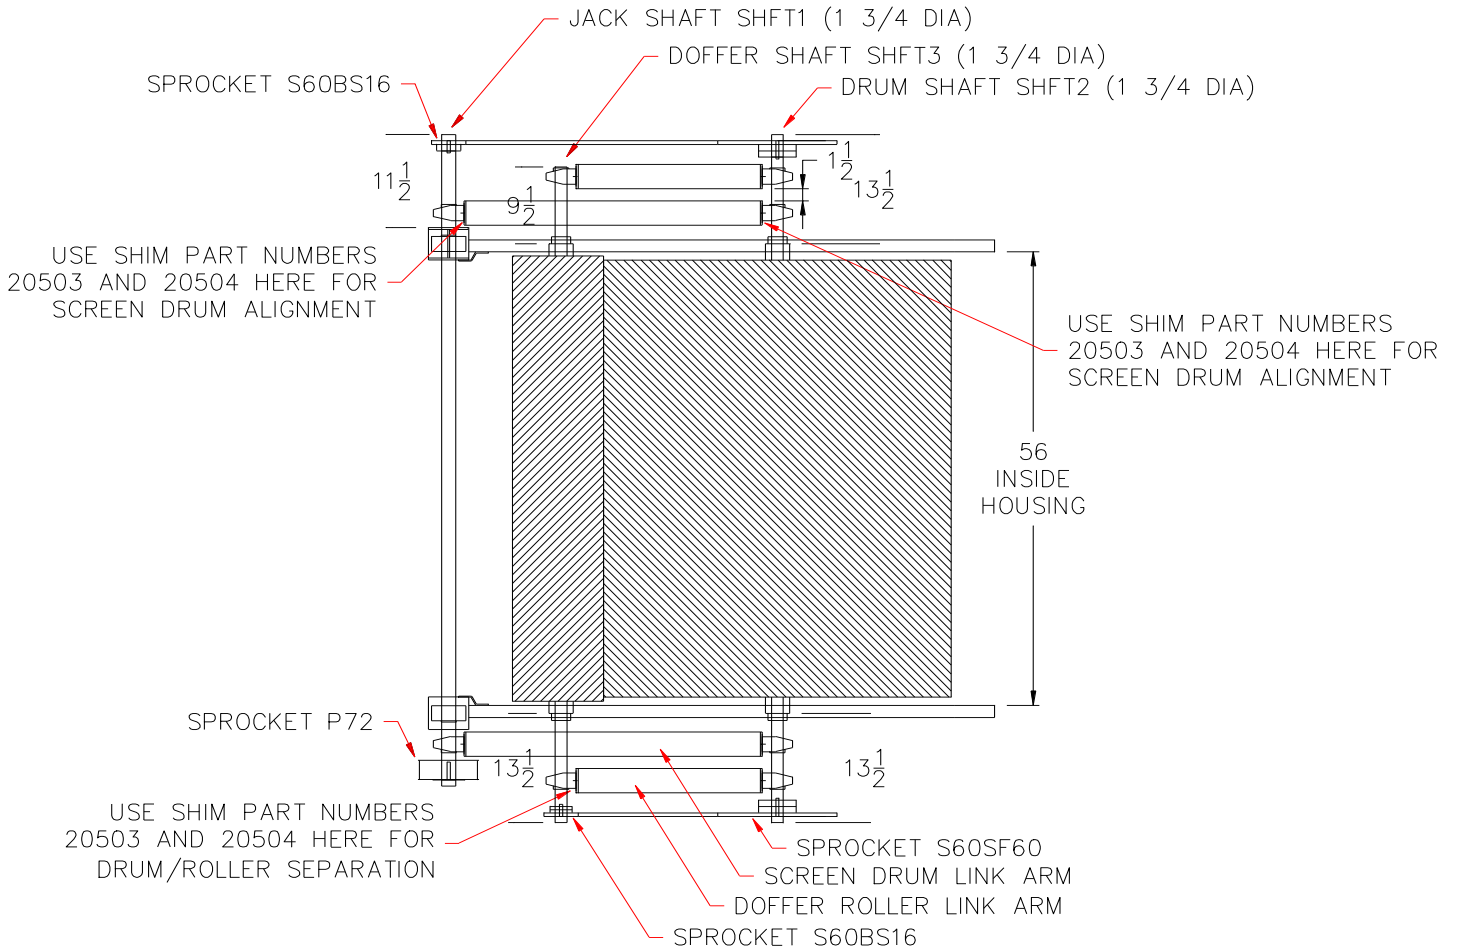

Figure 2 – Top view of Drive Train
- Alignment of the Screen Drum within the Steamroller housing is critical to avoid abnormal DRUM RING SEAL BRUSH (SB) wear. Alignment was checked and set at the factory. Some minor adjustments may be required after installation. Adjust for equal clearance between the Screen Drum sides and housing at both Steamroller inlet and outlet ends by placing shims under the bearings. Following shims are available from factory. Refer to Figure 2 for shim locations.